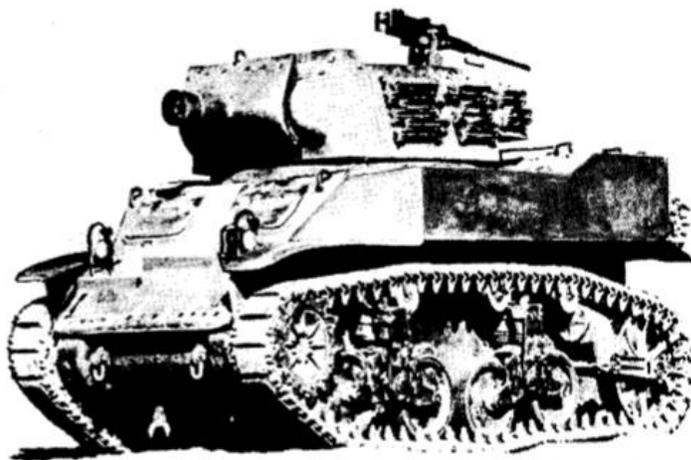

Figure 2. Carriage, motor, 75-mm howitzer.
b. 75-mm assault gun motor carriage M8 (fig. 2) This is the assault gun for the mechanized cavalry reconnaissance squadron. It is the 75-mm howitzer mounted on M8 motor carriage. It has 360° traverse. The characteristics of the carriage are similar to the light tank M5. A caliber .50 machine gun is mounted on the turret for antiaircraft defense.